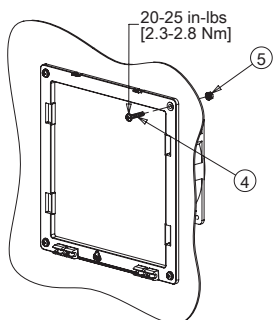

Figure 5
8. Torque fasteners to 20-25 in-lbs (2.3-2.8 Nm). See Figure 5 on page 4.